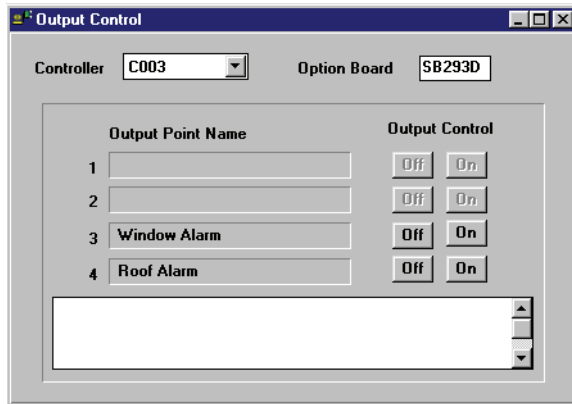

Figure 6-41: Output Control Window
1. To manually control output points, click on the Operate ⇒ Output Control pull-down menu. A window similar to Figure 6-41 appears.